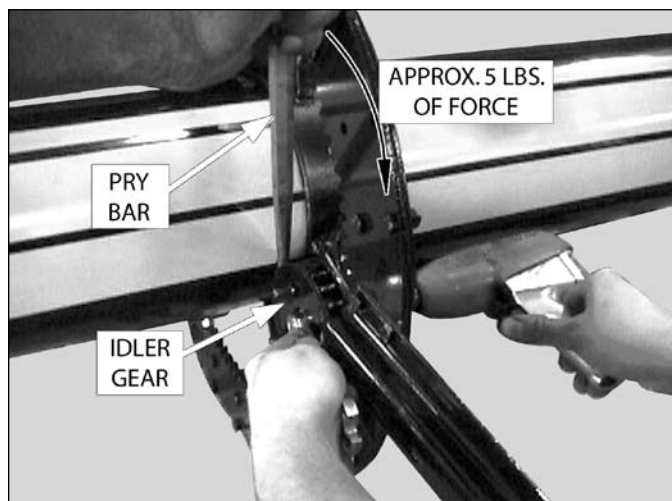

Figure 15, Tighten center locknuts
2. Use a small pry bar between the outside wall of the manifold tubing and the idler gears with approx. 5 lbs. of force (Figure 15)